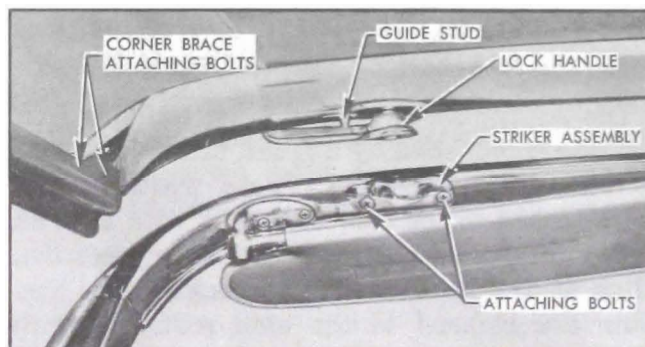

Figure 13-95—Front Roof Rail Corner Brace
2. Loosen corner brace attaching bolts indicated in figure 13-95 and adjust front roof rail fore or aft as required. Repeat on opposite side if necessary. *NOTE: This adjustment is limited. If additional adjustment is required, it can be made at the folding top male hinge.*